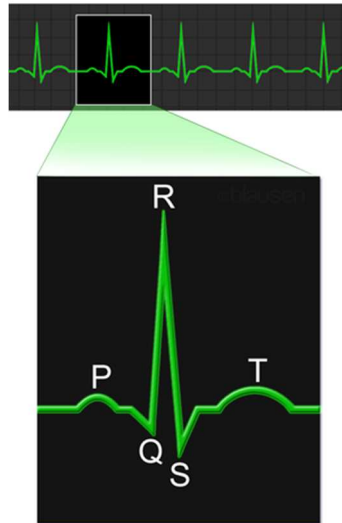

Figure 26 – Normal heart beat electrocardiogram wave signal (Blausen Medical Communications via Wikimedia Commons).
Figure 26 shows a standard ECG signal (II) divided into five parts: P-QRS-T. The P wave represents atrial depolarization, and the QRS represents ventricular depolarization. The T wave reflects the phase of rapid repolarization of the ventricles.